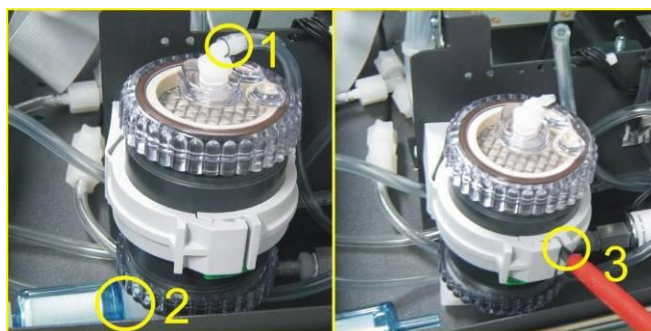

Figure 25 Zero scrubber removal
2. Remove the tubing from the barb fitting on top of the scrubber (1 in Figure 25)
3. Remove the DFU from the fitting below the scrubber by pulling it out (2 in Figure 25)
4. Now the scrubber holder can be opened with a screwdriver (3 in Figure 25)